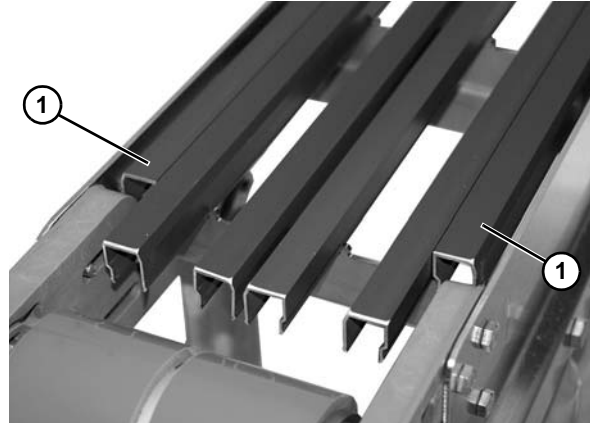

Figure 34
If conveyor belt is not easily removable, removing the outer bed rails (Figure 34, item 1) will allow the idler tail end to rotate further and allow the belt to be removed.